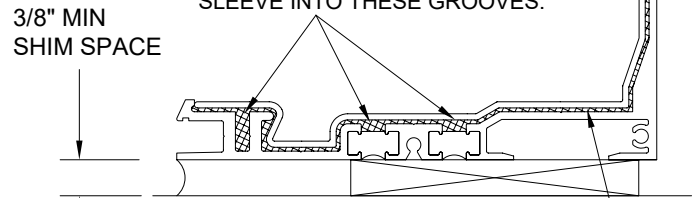

FIGURE 2
- Step 5: Fill front screw chase completely with silicone beyond splice a minimum of 1 inch from cut end of sill. (Figure 2)